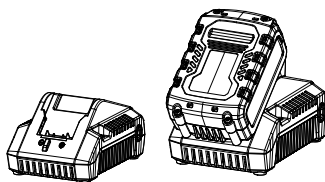

Fig. 17
4. Insert the battery pack into the charger, the light indicator of the charger turns green and it flashes (Fig.17).